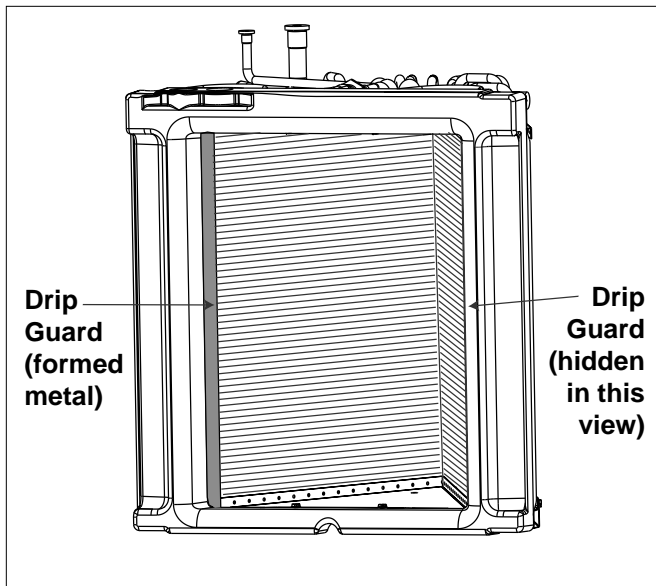

Figure 1
2. Locate two of the bent drip guards (see Figure 1).